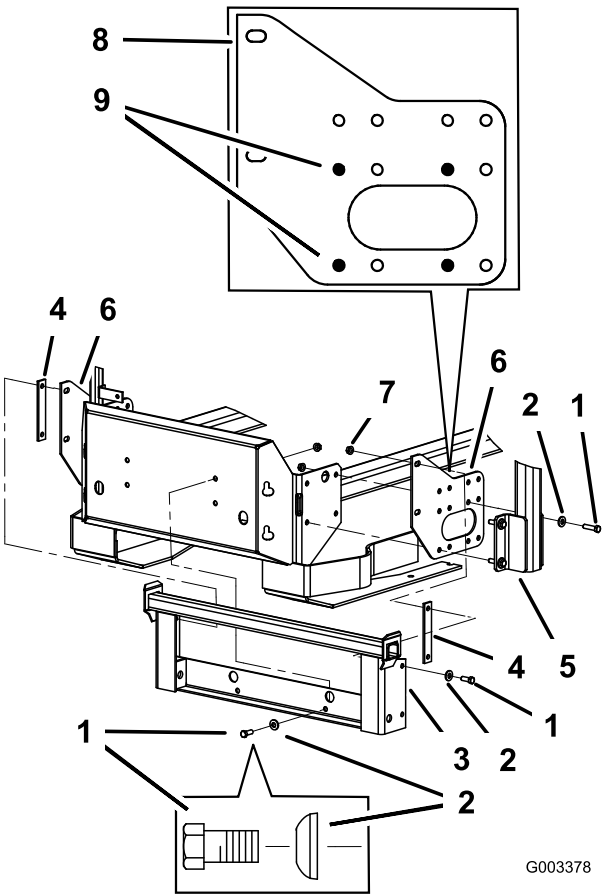

Figure 6
1. Remove the bolts, nuts, and washers holding the roll bar to one side of the machine. Discard the nuts, bolts, and washers (Figure 4, Figure 5, and Figure 6).
2. Install the bagger side plate and the roll bar section to the side of the machine using 4 bolts (3/8 x 1-1/2 inches), 4 curved washers (3/8 inch), and 4 flange nuts (3/8 inch) (Figure 4, Figure 5, and Figure 6).
3. Repeat the steps above for the opposite side (Figure 4, Figure 5, and Figure 6).
Note: Make sure the curved washers are installed as shown in Figure 4, Figure 5, and Figure 6.
4. Install the bagger mounting bracket to the left and right side bagger brackets with 4 bolts (3/8 x 1-1/2 inches), 4 curved washers (3/8 inch), and 4 flange nuts (3/8 inch) (Figure 4, Figure 5, and Figure 6).
5. Install the bagger mounting bracket to the rear frame of the machine with 2 bolts (3/8 x 1-1/2 inches) (use 2 bolts (3/8 x 1 inch) for Z593 mowers as shown in Figure 5), 2 curved washers (3/8 inch), and 2 flange nuts (3/8 inch) (Figure 4, Figure 5, and Figure 6).
3. If the bagger mounting bracket moves side to side an 1/8 inch or more, install one or both of the spacers between the bagger mounting bracket and mounting plates (Figure 4, Figure 5, and Figure 6).